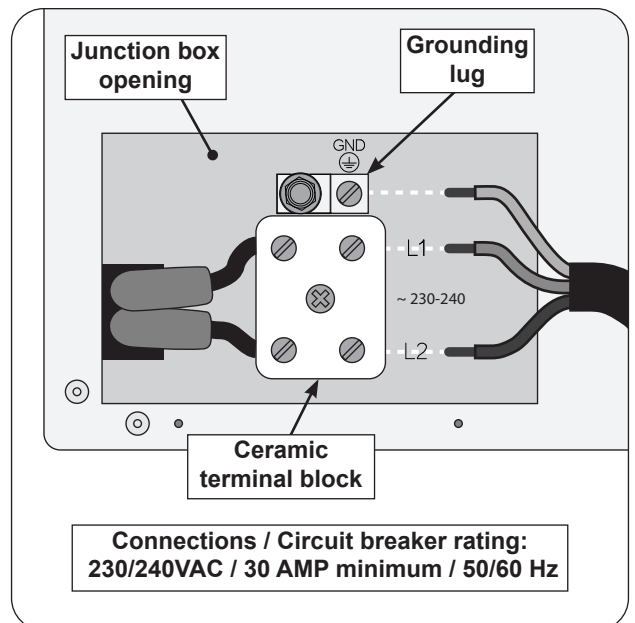

Fig. 30-3 Wire connection diagram
3. Connect the wires to the ceramic terminal block. Reference the wiring information below and Fig. 30-3.